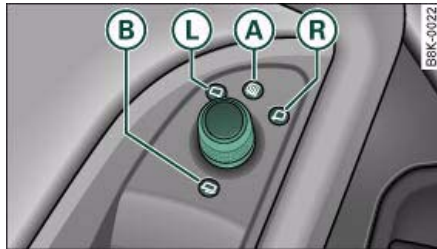

Fig. 72 Detail of the armrest: Adjuster knob
- Turn the adjuster knob to position **L** (left exterior mirror) or position **R** (right exterior mirror) ⇒ fig. 72.
When reverse gear is engaged, the mirror surface tilts slightly downwards, provided the mirror control is switched to the exterior mirror on the passenger's side (knob in position **R**) ⇒ fig. 72). This provides a better view of the kerb when parking.